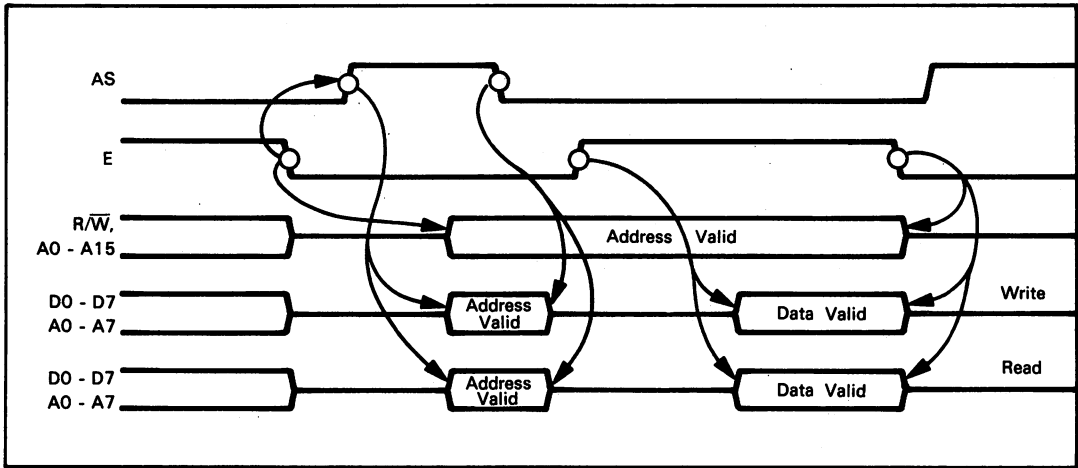

Figure 9-57. MC6801 Bus Timing for MUX Operation (Read and Write)
**The timing waveforms that result from this expanded, multiplexed mode of operation are illustrated in Figure 9-57.**